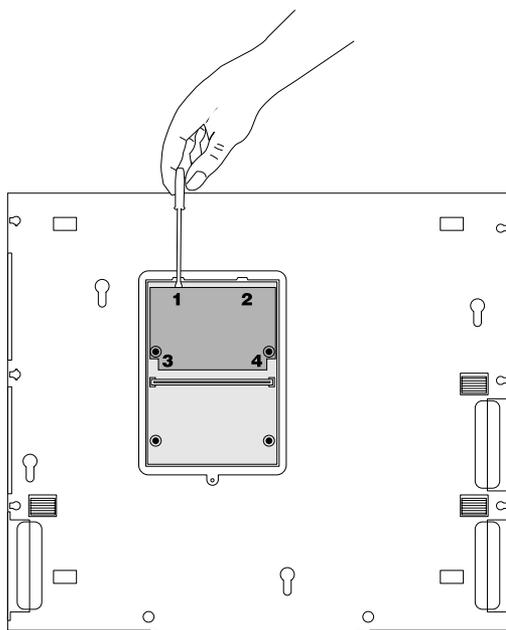

Figure 3-15 Removing the Main Memory Module
If you are installing or upgrading only one main memory module, install it in the position of the memory module shown in Figure 3-15 (the memory slot closest to the rear of the unit).
Caution: You must pry gently upward at the leverage points shown in Figure 3-15 or you may damage your memory modules or the main system board and void your system warranty. The leverage points are numbered and you must pry gently upward in the order shown to remove the memory modules without damaging them.
- a. Using a small flat-tip screw driver, pry gently upward against the outer edges of the system's primary main memory module until the memory module is free of its RAM connector, as shown in Figure 3-15.